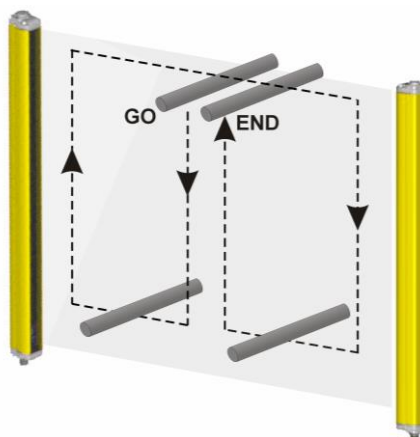

Figure 15 – Scheme for checking the function
- The AOPD remains in OSSD OFF state (➡) during beam interruption along the entire detection zone, using the suitable “Test Piece” and following the Figure 15 scheme. The suitable “Test Piece” has one dimension identical with the resolution of the AOPD, a cylinder with a 14 mm diameter for a light curtain with a 14 mm resolution for example.